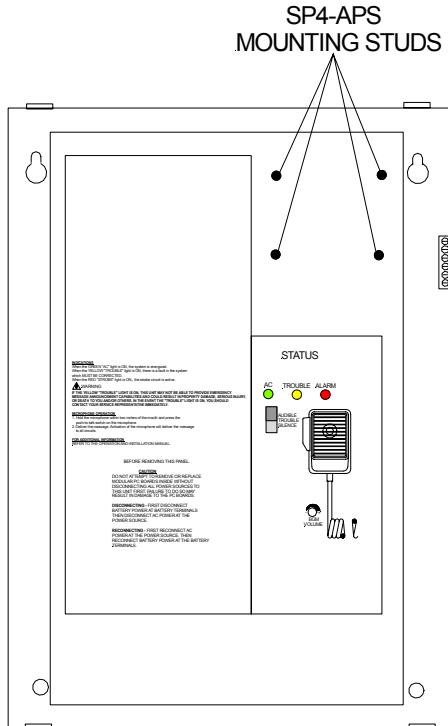
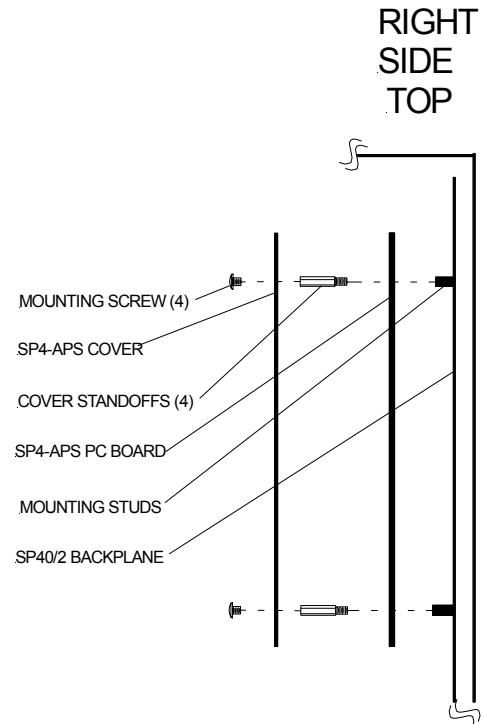

Figure 6:
Figure 7:
Figure 6 shows the mounting location of the SP4-APS Splitter to the backplane of the SP40/2 panel. Figure 7 shows the correct mounting procedure.
3. Attach wiring in accordance with this section and Figure 7.